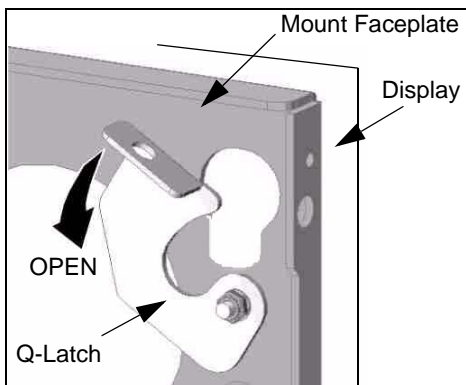

Figure 13: Open Q-Latch
3. Move Q- Latch to the "open"position. (see Figure 13:).